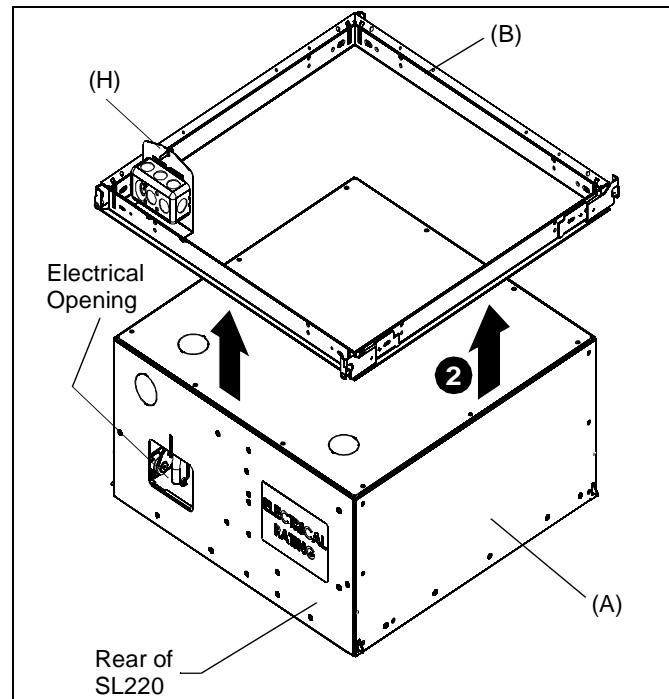

Figure 16
1. Orient SL220 so that the rear of the SL220 (with the electrical opening) lines up with the outlet box attachment plate (H) on the SL220 frame. (See Figure 16)
2. Lift SL220 (A) into place through the SL220 frame (B). (See Figure 16) Ensure that there are four audible clicks--each corner hook "clicking" into place onto the frame. (See Figure 17)